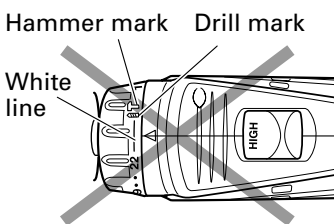

Fig. 10
- Do not use with the cap numeral at "22" and the white line at the middle of the drill mark. Doing so may cause damage. (See Fig. 10)